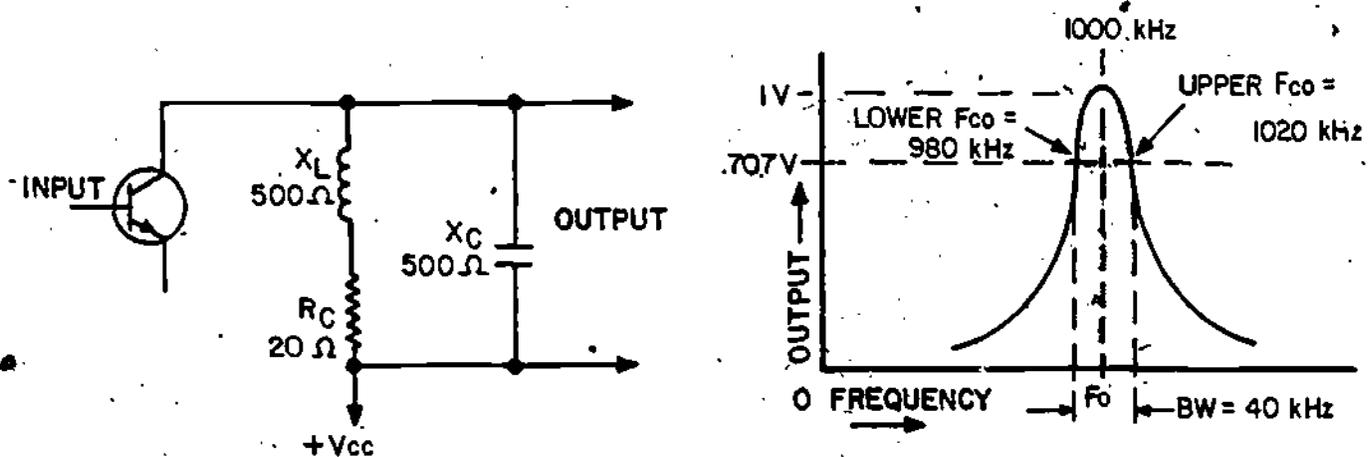
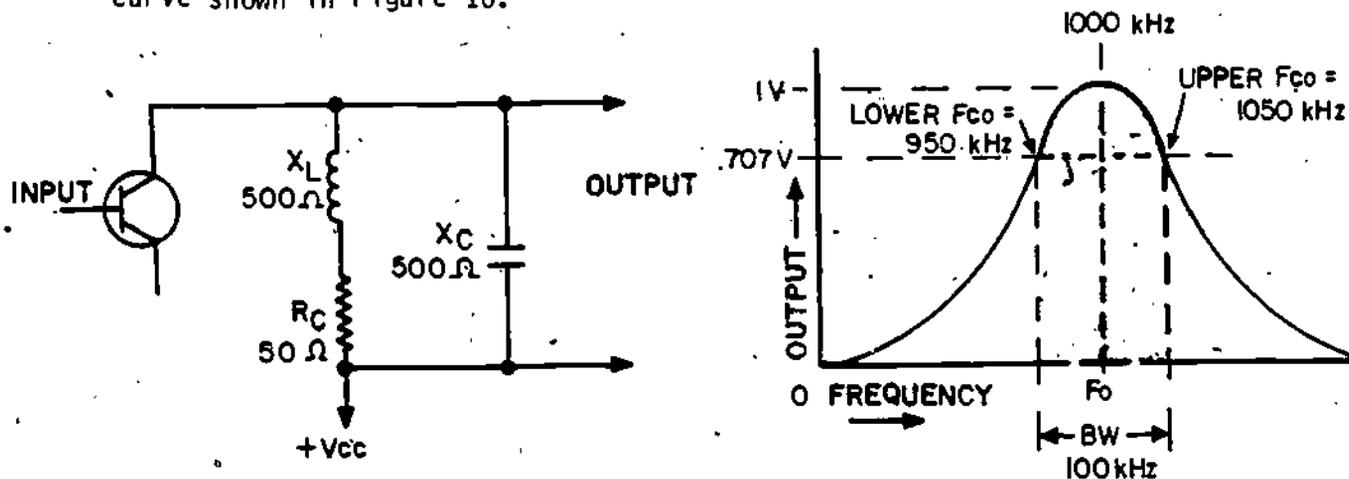

Figure 15
Figure 16
16. Figure 15 shows both a diagram of a tank circuit, and the frequency response curve for the tank.
In Figure 15, the tank has a resonant frequency ( $F_o$ ) of 1000 kHz, a frequency response of 980 kHz to 1020 kHz, and a bandwidth of 40 kHz. Now you can calculate the bandwidth by plugging values into the formulas for both  $Q$  and bandwidth. From Figure 15,  $Q$  of the tank equals  $\frac{X_L \text{ (or } X_C)}{R_c}$  or  $\frac{500 \text{ ohms}}{20 \text{ ohms}}$ , or 25. Since  $F_o$  equals 1000 kHz, the bandwidth equals  $\frac{F_o}{Q_{\text{tank}}}$ , or  $\frac{1000 \text{ kHz}}{25}$ , or 40 kHz. In Figure 15, notice that the frequency response curve at the upper and lower  $F_{co}$  points has steep sides, or skirts. This indicates that the  $Q$  of this tank produces high selectivity.
17. Now let's examine the tank circuit diagram and frequency response curve shown in Figure 16.
The only value difference on the tank diagrams between Figures 15 and 16 is that the coil resistance ( $R_c$ ) is increased from 20 ohms to 50 ohms. The  $Q$  of the tank in Figure 16 now equals  $\frac{500 \text{ ohms}}{50 \text{ ohms}}$ , or 10. Since  $F_o$  still equals 1000 kHz, the bandwidth now equals  $\frac{1000 \text{ kHz}}{10}$ , or 100 kHz. You can see that  $Q$  changes as resistance changes. It is obvious from the previous examples that an increase in the resistance in series with a tank produces a decrease in  $Q$ , and also a wider bandwidth.